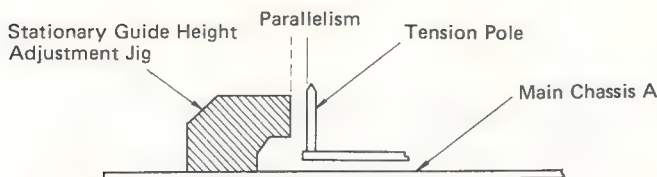

Figure 15
2. Set the stationary guide height adjustment jig as shown in Figure 15.